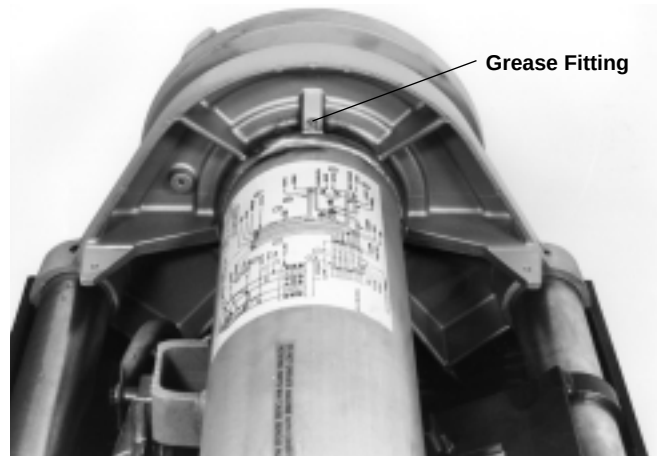

Figure 31 – Greasing Main Shaft Bearings
1. Remove four (4) cover screws and remove cover.
2. Use grease gun to apply grease to the shaft bearing (*Figure 31*). Grease fittings every 2 to 6 months, depending upon amount of machine use.